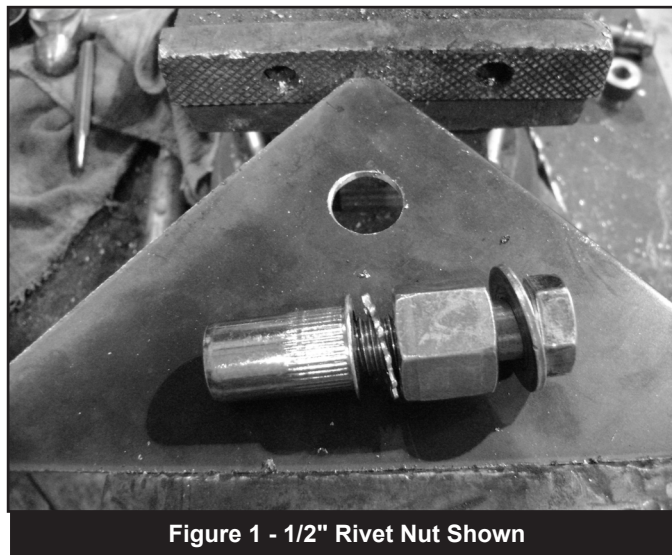

Figure 1 - 1/2" Rivet Nut Shown
14. For a 3/8" rivet nut, place the provided 3/8" SAE flat washer on the 3/8" x 1-1/2" bolt, followed by 7/16" hex nut and then a 3/8" serrated washer. **Figure 1** Thread this tool assembly into the rivet nut.
15. For a 1/2" rivet nut, place the provided 1/2" SAE washer on a 1/2" x 2" bolt followed by a 9/16" high nut and 1/2" serrated edge lock washer. Thread this tool assembly into the rivet nut as shown. **Figure 1**